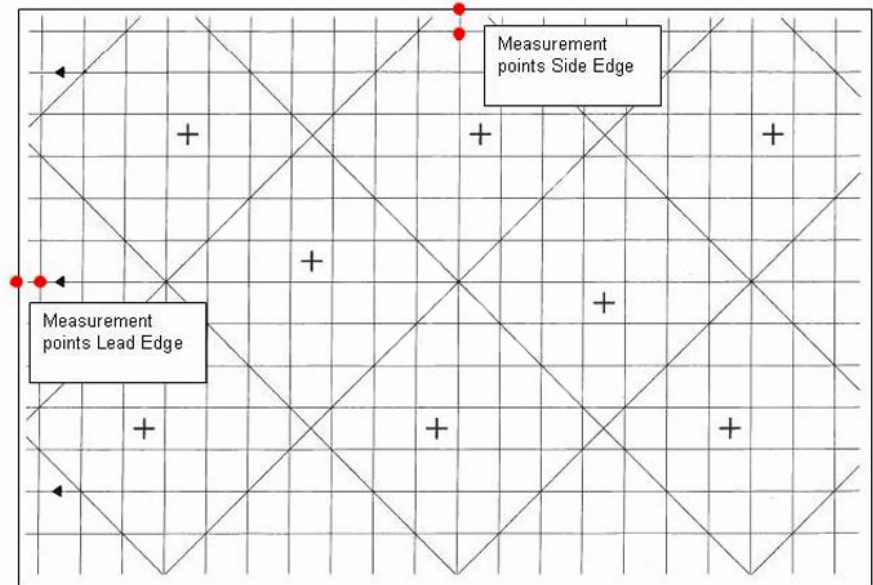

Figure 1 Test Pattern Measurement Points
7. Remove the prints one at a time from the center output tray and **Flip each one Right to Left**, to position it as shown in **Figure 1** (lead edge to the left).
9. Take the third print and measure from the lead edge to point A (as shown on **Figure 1**). Point A is at the intersection of the 7th line from the side edge and the first line from the lead edge.
NOTE: "Side 2" will be delivered face-down in the tray, with the Lead edge to the right. Flip each one Right to Left to position it as shown in **Figure 1** (lead edge to the left).
4. Take the third print and measure from the lead edge to point A (as shown on **Figure 1**). Point A is at the intersection of the 7th line from the side edge and the first line from the lead edge.
4. Take the third print and measure from the lead edge to point B1 (as shown on Figure 1). Point B1 is at the intersection of the 5th line from the side edge and the first line from the lead edge.